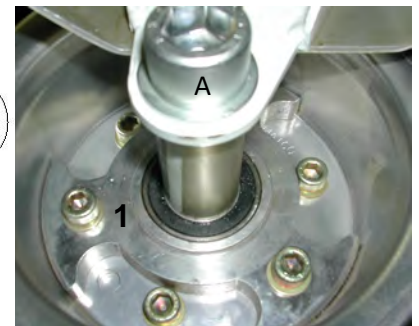

Figure 39: Nose wheel installation.
- Observe the correct placement of washers and bushes and the correct orientation of the nose wheel (refer to Figure 39). Note that the lock-nut faces the starboard side of the aircraft.